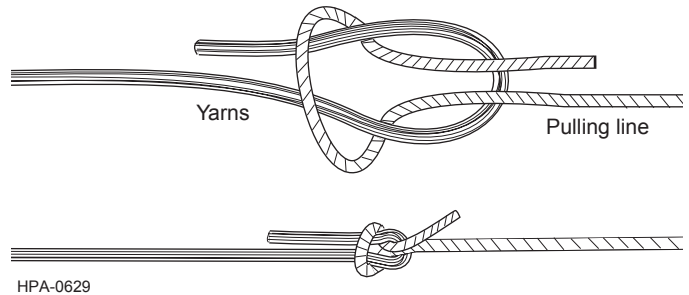

Figure 32
**Step 6:** Securely tie the aramid yarns to the pulling line. Example knots may be the square knot (shown in Figure 32), or a fisherman's knot.